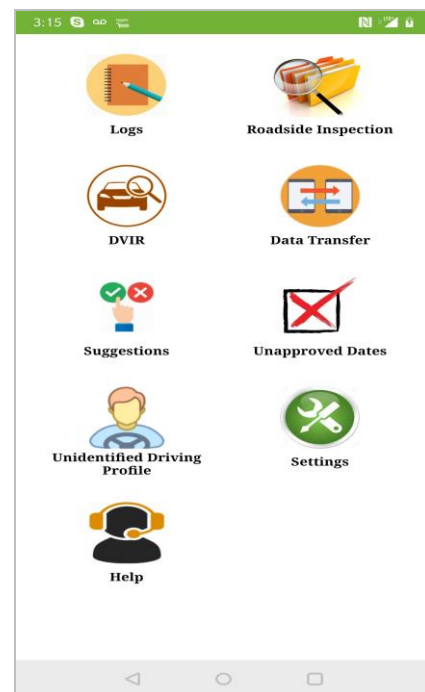

Figure 2.2 – Home screen
- After login, Select Logs icon in the Home screen (figure 2.2).